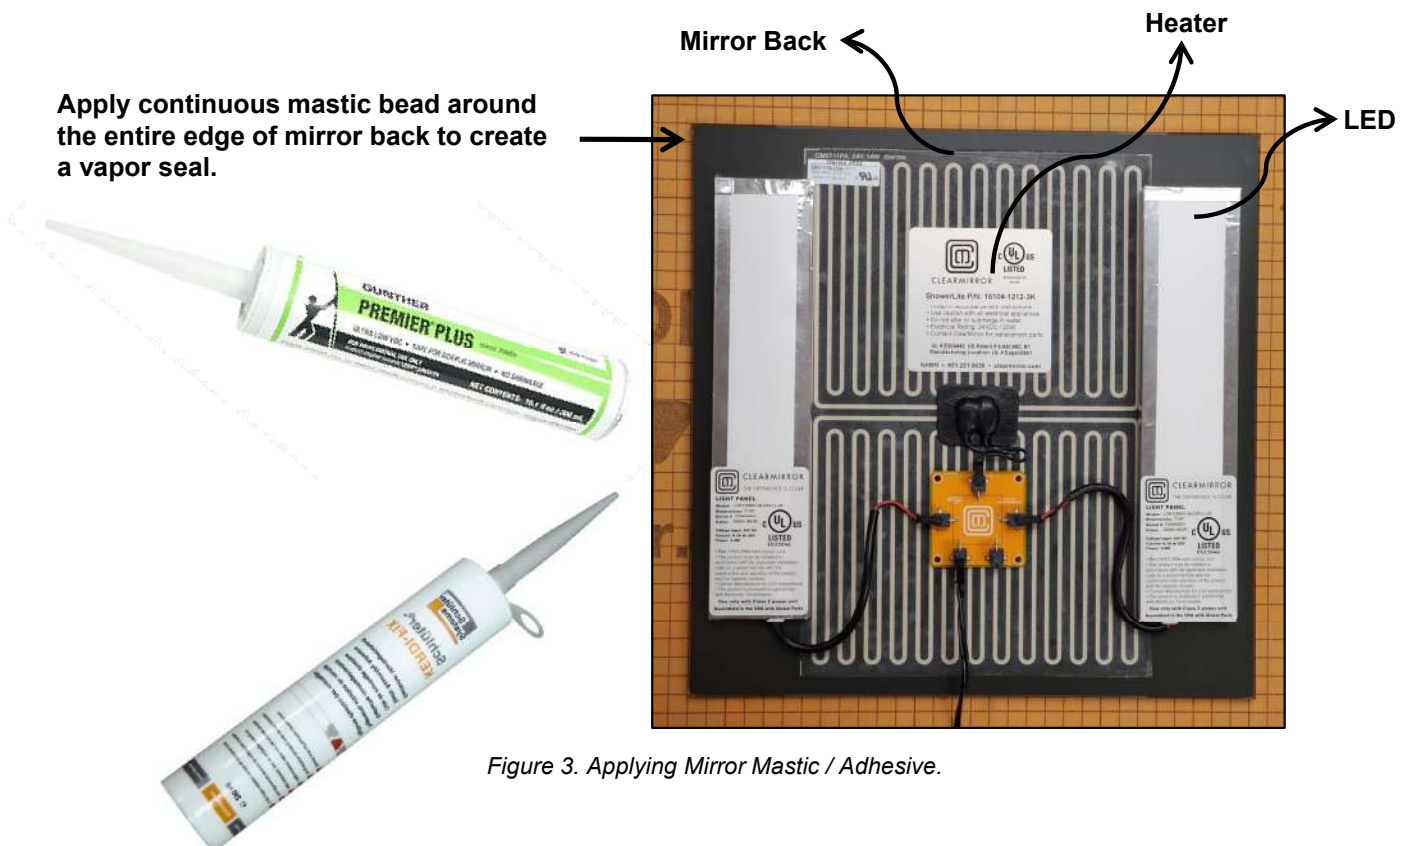

Figure 3. Applying Mirror Mastic / Adhesive.
4. Apply a **continuous bead around the entire edge** perimeter to fully seal and protect the mirror, as shown in Figure 3.